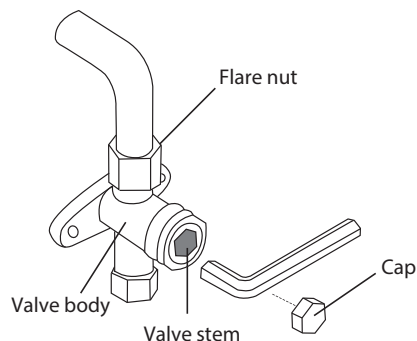

Fig. 25 — Service Valve Diagram
2. For size 18, **DO NOT** open the Gas or Liquid service valves until the evacuation is complete. For sizes 24-48, fully open all the connected individual service valves (with the line set attached). **DO NOT** open the Master Service Valves until the evacuation is complete (see Fig 25).
9. Insert a hexagonal wrench into each Gas Side Service Valve for size 18 or into the Master Gas Side Service Valve for sizes 24-48 and open the valve by turning the wrench 1/4 counterclockwise. Listen for gas to exit the system (see Fig. 25).
12. Using a hexagonal wrench, fully open all the gas and liquid service valves for the size 18 and all the Master Gas and Liquid service valves for sizes 24-48 (see Fig. 25).